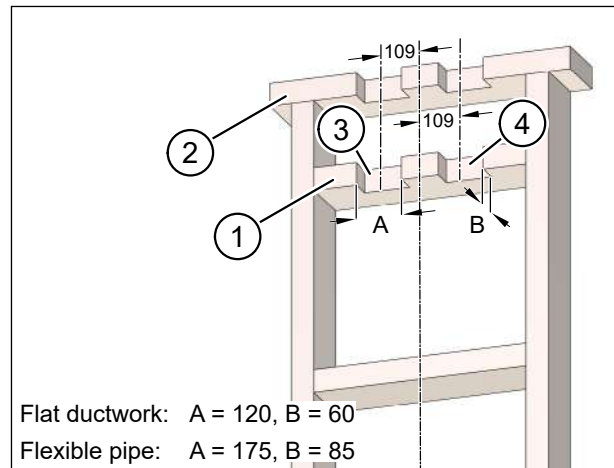

Fig. 45: Sawing channels for flat ductwork or flexible pipes, dimensions in millimetres
- ▶ Saw two channels for the extract air duct (item 3 in Fig. 45) and supply air duct (item 4 in Fig. 45) in the upper batten (item 1 in Fig. 45) and the ceiling joist (item 2 in Fig. 45).